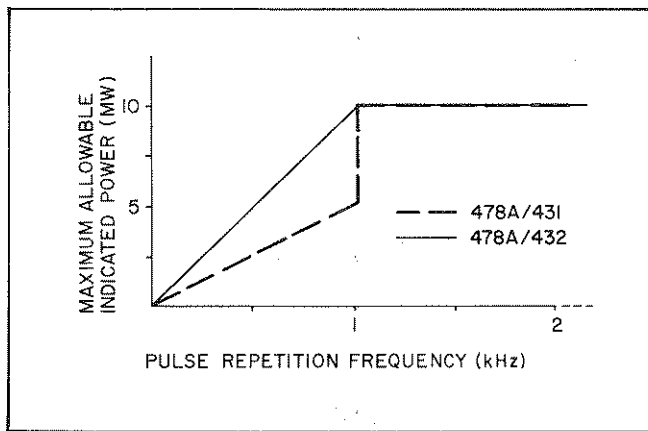

Figure 1. Maximum Power Meter Reading vs PRF for Pulses Shorter than 250  $\mu$ s
14. PULSE ENERGY AND PEAK POWER FOR 478A/432 COMBINATION. For pulses shorter than 250  $\mu$ s, energy per pulse must not exceed 10 W- $\mu$ s and peak power should never exceed 200 watts. (For example, a 40 mW, 250  $\mu$ s pulse contains 10 W- $\mu$ s of energy.) Pulses longer than 250  $\mu$ s are allowed to contain more energy but peak power must not exceed 200W. Figures 1 and 2 interpret these limits in graphical form. (For lack of space, the mount nameplate lists only a 5 W- $\mu$ s
15. PULSE ENERGY AND PEAK POWER FOR 478A/431 COMBINATION. The limitations of this combination are basically the same as the 478A/432 with the exception that at pulse repetition rates less than 1 kHz, energy per pulse must not exceed 5 W- $\mu$ s and peak power must not exceed 10 mW. These limits are also interpreted in Figures 1 and 2.